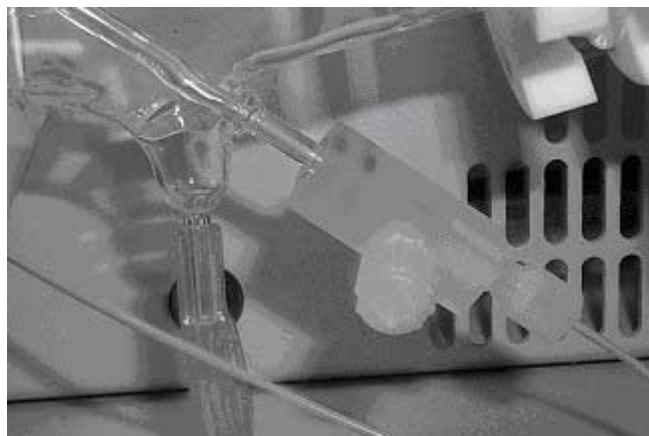

Figure 6
6. Remove the Sample Inlet Adapter by rotating it back and forth. Be careful! This glass is fragile and if broken it will need to be replaced. See Fig. 6